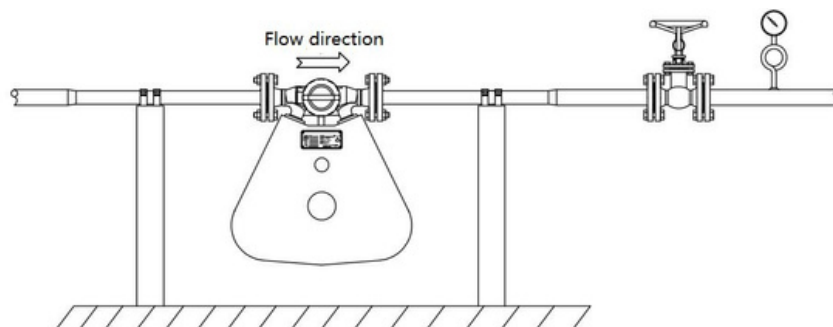

Figure 8.10
- (5) When measuring the medium that is easy to vaporize, it is recommended to install a pressure gauge downstream of the flowmeter to check the downstream pressure. If the downstream of the flowmeter needs to be expanded, it is recommended that the process pipe downstream of the flowmeter keep a certain distance from the flowmeter at the same caliber, and that a valve be installed downstream of the sensor to adjust the appropriate back pressure to prevent vaporization or cavitation. If the medium vaporizes or cavitates in the flowmeter, the measurement accuracy will be affected and the sensor will not work normally in severe cases (as shown in Figure 8.10).